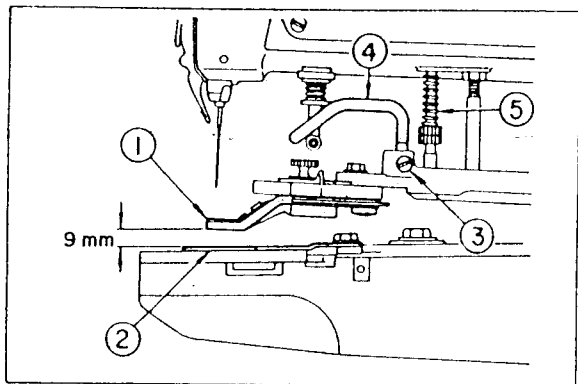

Fig. 2
2) Adjusting the button clamp foot lifting amount (Fig.2)
The thread trimming connecting device can be returned by the button clamp foot cloth press pressure spring (Fig.2 ⑤).